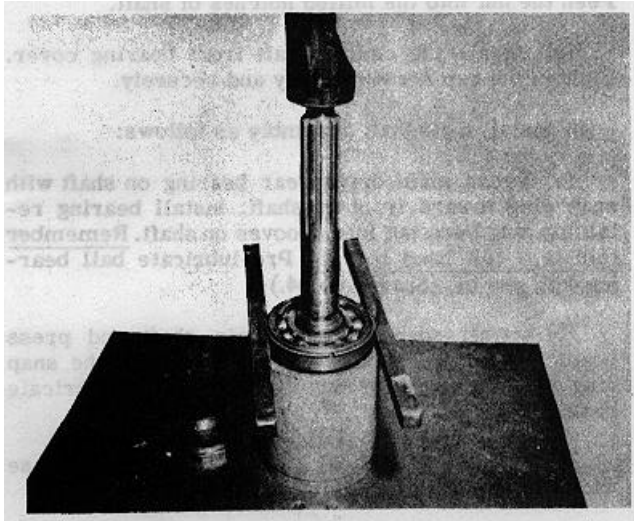

FIGURE 9. Removing Drive Gear Bearing
(16) Press off the bearing from drive gear, if replacement is contemplated. (See Figure 9.)